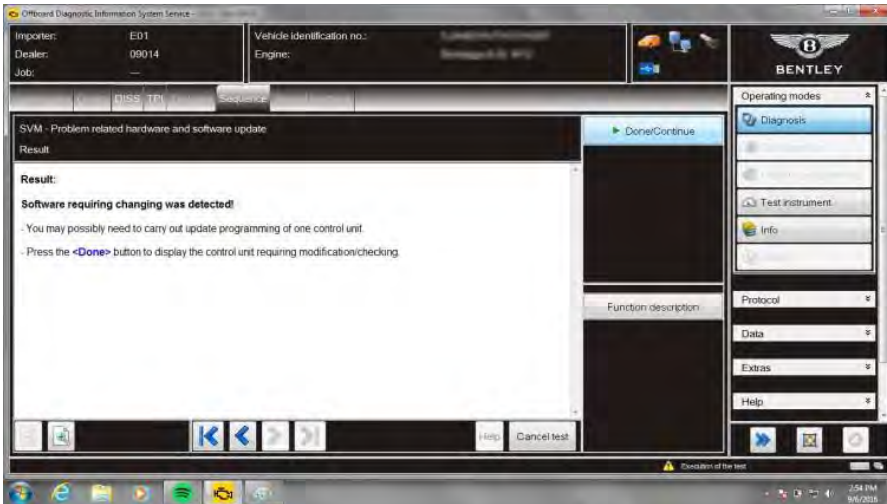

Figure 4
13. Once software that requires changing is detected select Done/Continue (see Figure 4). Follow prompts the online connection will deliver the required software to the tester